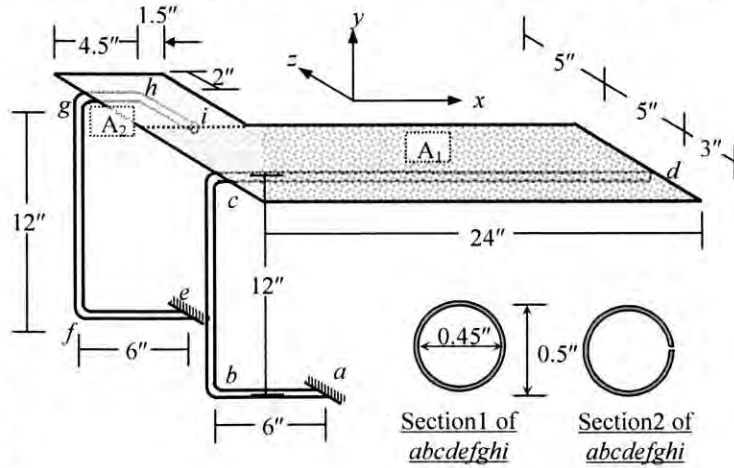

Fig. 1
1. Fig. 1 shows the frame system $abcdefghi$ supporting the top of a classroom chair, which carries uniformly distributed load 1 lb/in^2 .
2. For the frame system supporting the top of a classroom chair carrying uniformly distributed load 1 lb/in^2 (as shown in Fig. 1), the frame $efghi$ supports load on area A_2 only.